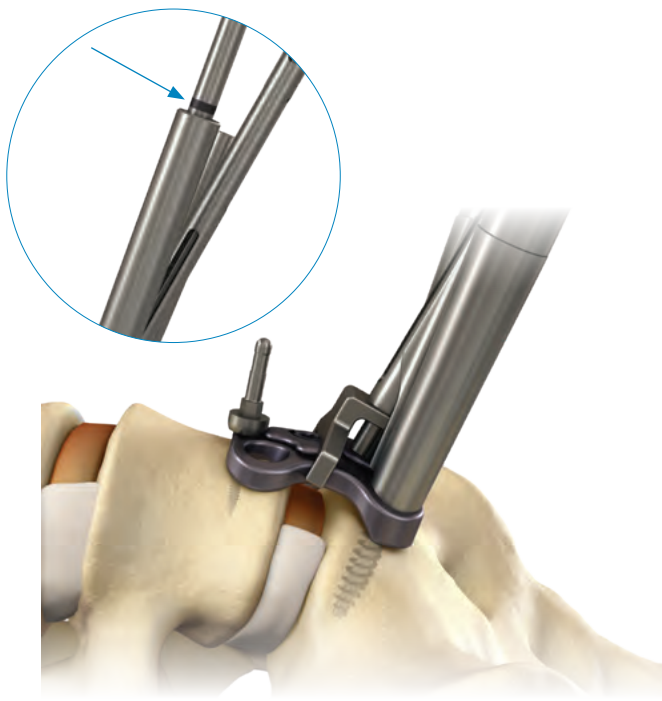

Figure 22:
- Insert the bone screw through the guide tube into the desired prepared screw hole and rotate clockwise to advance the bone screw until the laser-marked line on the self-retaining screwdriver meets the top of the guide tube. This will position the screw about two turns from a fully seated position (Figure 22).